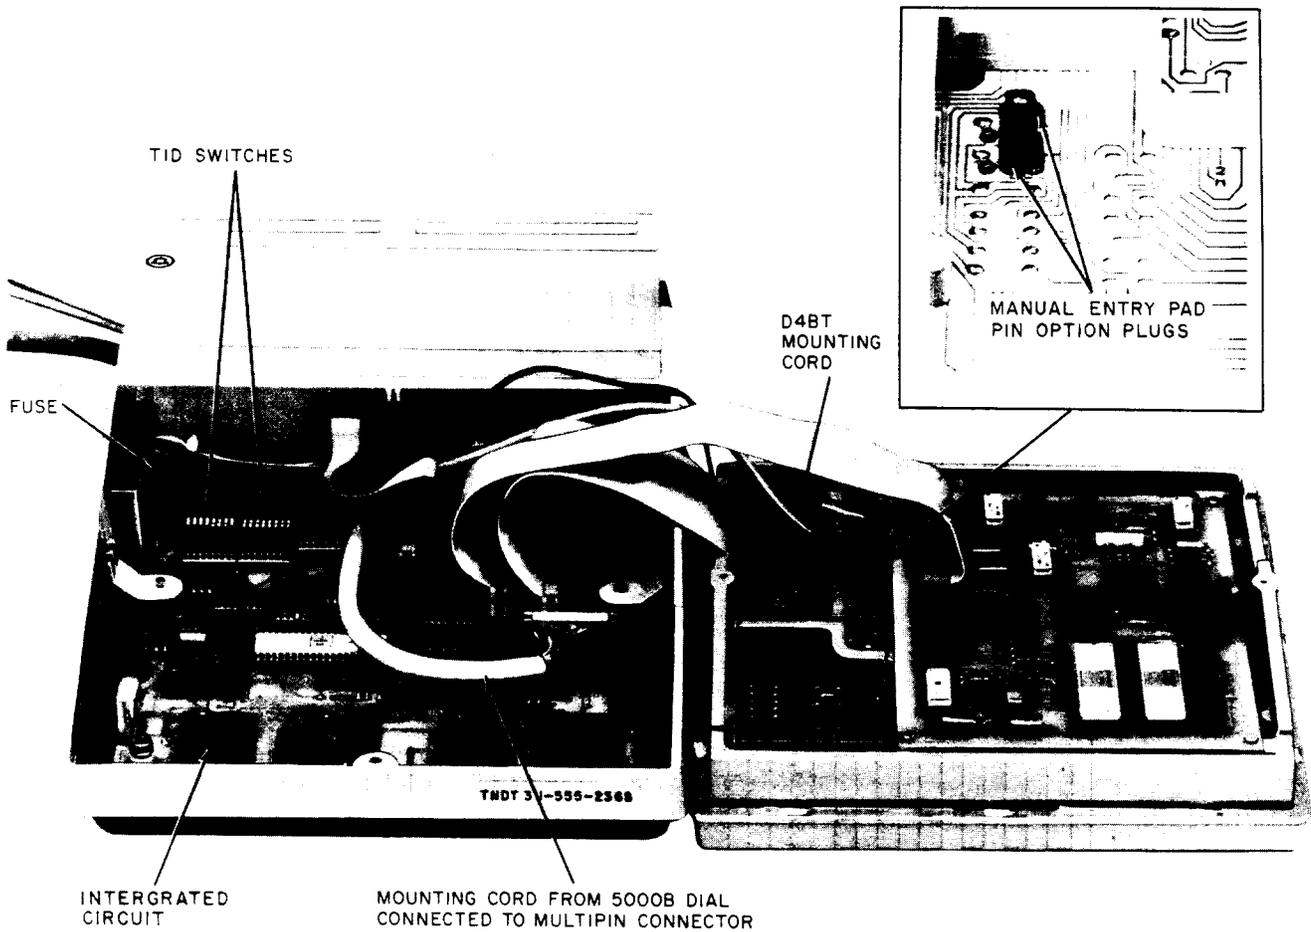

Fig. 3—5000A Transaction III Terminal Set With Upper Housing and Chassis Laid Aside — 5000B, D, or F Dial Connected
- (1) Invert set and loosen the two captive screws holding the upper housing and chassis.
- (2) Lay the upper housing and chassis to the right, as shown by Fig. 3 without disconnecting any cables.
3.04 The Terminal Identification (TID) for the terminal being installed (number is on the service order) should now be set on the terminal identification switches (Fig. 3). The 4 digits of the TID are set by closing the appropriate rocker-switches in each digit group which have values of 1, 2, 4, and 8 counting from left to right. If front side of rocker switch is depressed, the switch will close and the horizontal mark across the bar is not visible. If rear side of rocker switch is depressed, the switch will open and the horizontal mark across the bar is visible. Only closed switches produce a 1, 2, 4, or 8 (counting left to right) or a combination thereof. See Fig. 4 for example of switches coded for TID No. 5874.
3.05 To provide this manual entry pad PIN option, move the two option plugs shown in Fig. 3 to the two left pin positions.
- (1) Verify that manual entry pad PIN option plugs are in the right pin positions as shown by the insert of Fig. 3.
- (2) Hold the lower housing up on its side and feed the mounting cord of the 5000B, D, or
(3) Plug multipin connector of dial mounting cord into receptacle on main printed wiring board (PWB) Fig. 3. (Cord should extend toward the front of the set when connector is correctly oriented.)
(4) If a 5000F dial is being used, the A52D7PC integrated circuit provided with the D-180822 Kit of Parts must be installed in place of the A52D7PB circuit on the main printed wiring board, (Fig. 3). Carefully pry up the edge of the existing integrated circuit package and lift it out. When properly oriented the new circuit package may be plugged in.